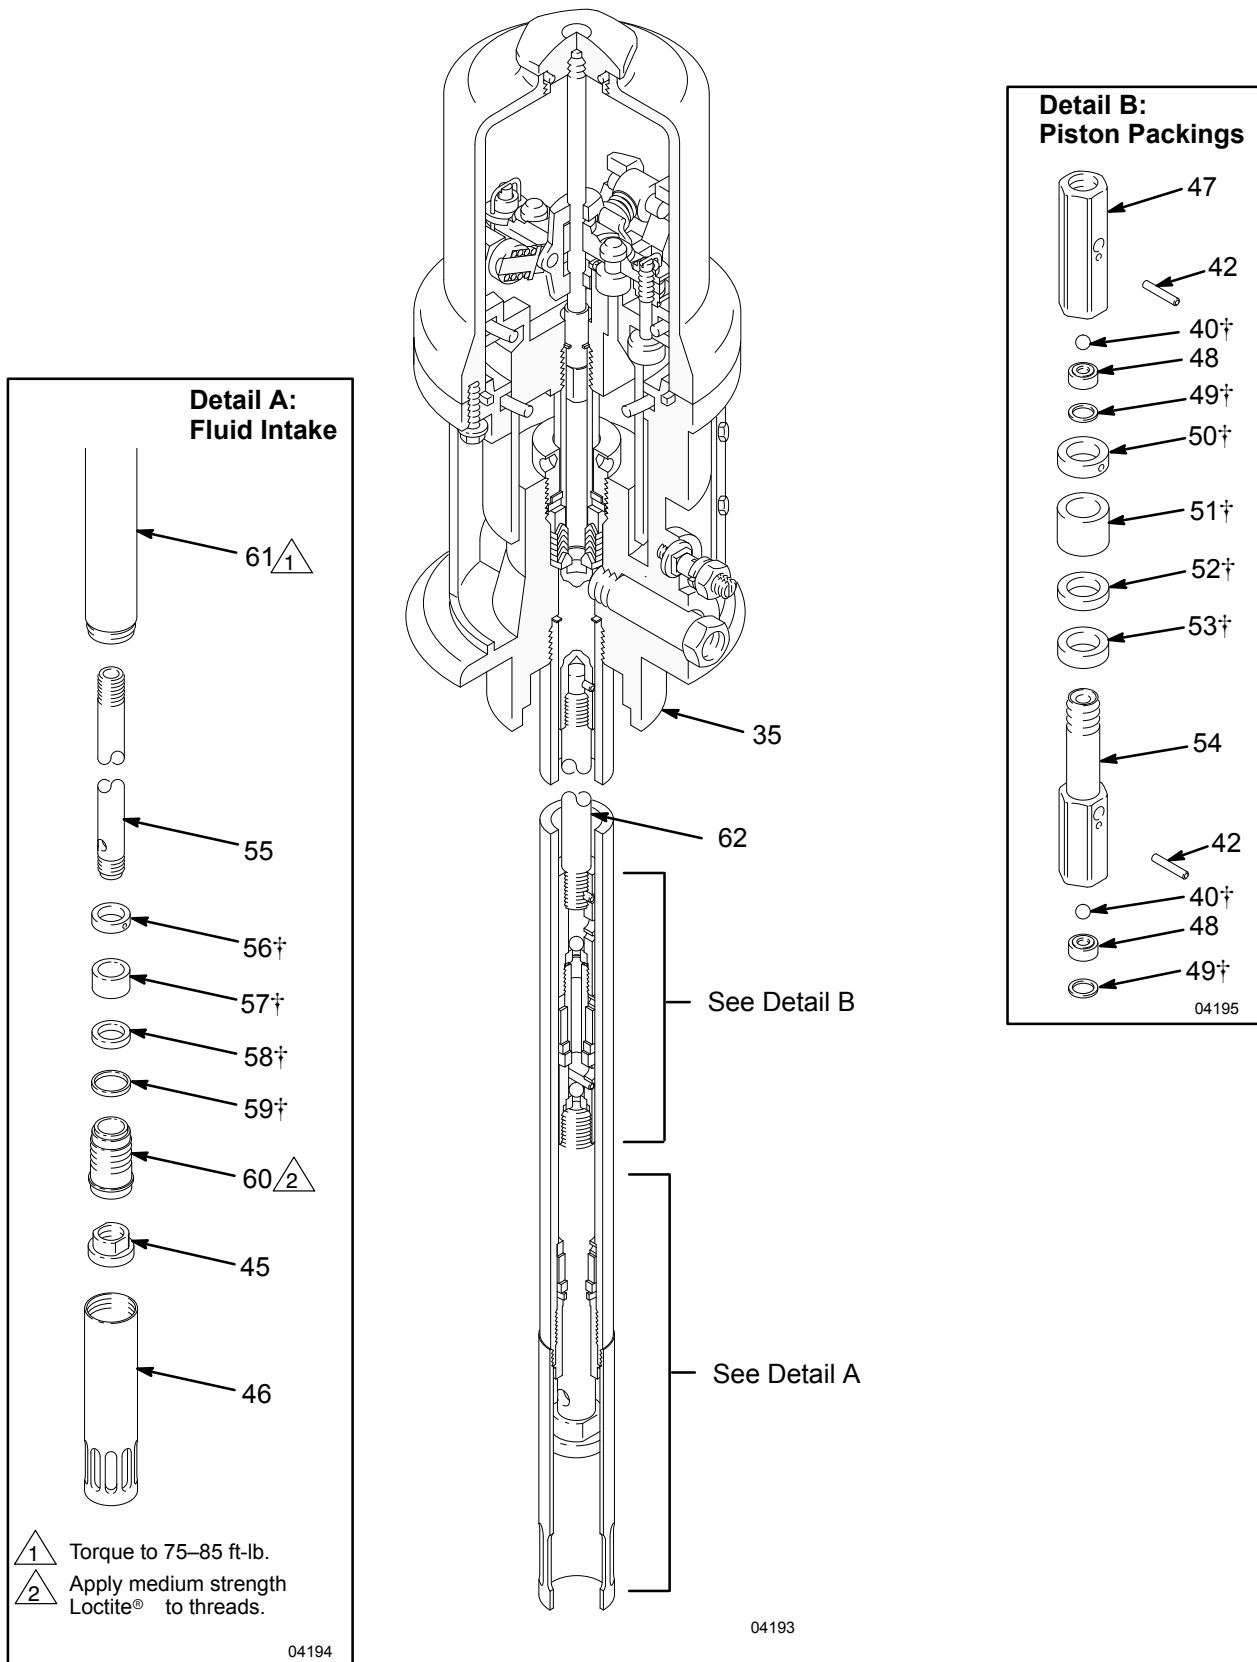

Fig. 4
6. See Fig. 4. Use a pipe wrench at the knurled part of the displacement cylinder (61) to screw it out of the base. Screw the packing retainer (60) out of the cylinder. Remove the seal (59), guides (56,58) and packing (57). See Fig. 4, Detail A.
7. Use the rod (K) to screw the displacement tube (55) out of the check valve packing retainer (54). Remove the gasket (49), seat (48) and ball (40). Then screw the packing retainer out of the coupling (47). Remove the upper gasket, seat and ball, and the guide (50), packing (51), and washer (52). Do not remove the press-fit brass guide (53) unless it is damaged. See Fig. 4, Detail B.
8. If the pressed-on brass guide (53) needs replacing, clamp it in a vise and drive the packing retainer (54) out with a plastic hammer. The new guide must be started onto the retainer squarely.
9. Clean all the parts in a compatible solvent and inspect them for wear or damage. Use all the parts in the repair kit, and replace other parts as necessary. The checkball seats (48) can be turned over to provide new seats.
10. Lubricate all the parts with light waterproof grease and reassemble the pump. Apply medium-strength Loctite® to the threads of the intake packing retainer (60).